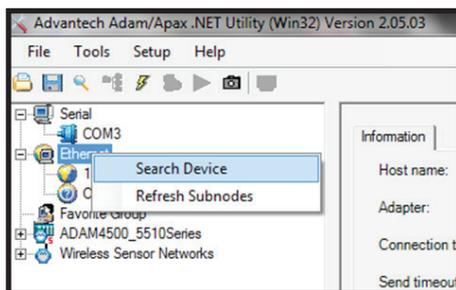
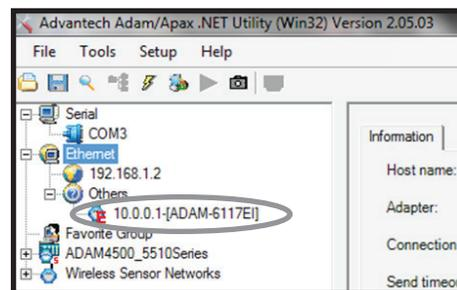

Figure 1–Search Device
Figure 2–Module listed below PC IP address
2. In the tree on the left side of the screen, right-click **Ethernet**, and then click **Search Device** (Figure 1). The available ADAM modules appear in the tree below your PC's IP address (Figure 2).